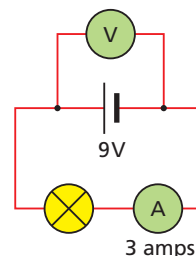

FIGURE 2.6.13d
4. What is the resistance of the circuit shown in Figure 2.6.13d?